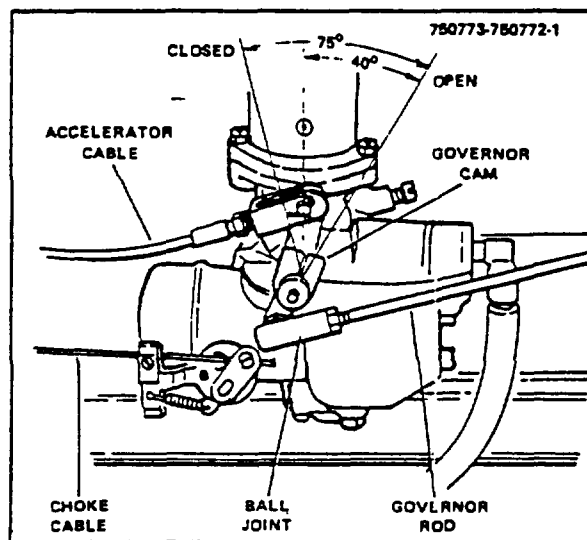

Figure 4-8. Carburetor Linkage Adjustments
3. Connect governor rod to carburetor lever. Insert threaded end of ball joint (Fig. 4-8) through lever and secure with ball joint nuts.
4. Install yoke on end of accelerator cable (Fig. 4-8) over carburetor lever and install yoke pin through yoke and lever. secure yoke to lever with cotter pin.
5. Install choke cable (Fig. 4-8) through clamp-on choke bracket and into block. Tighten screw to secure cable in block. Tighten clamp screw.
7. If the carburetor levers (Fig. 4-8) were removed during disassembly, adjust governor lever on shaft to angle illustrated.